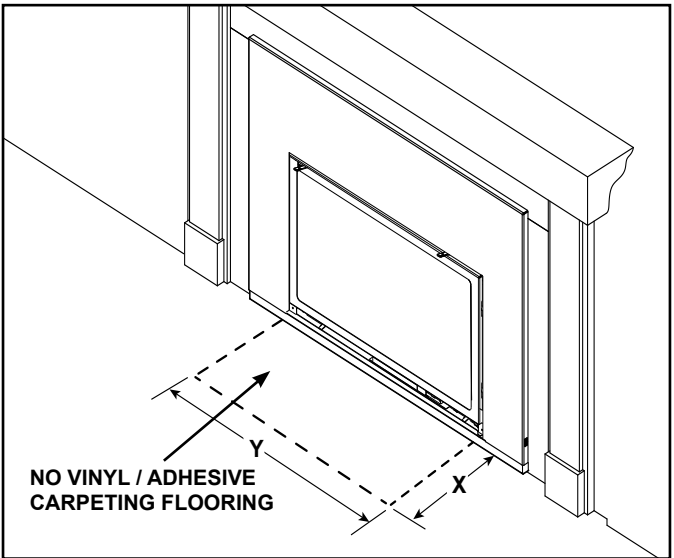

Figure 8.5 Combustible Material Exception
- Combustible flooring may be located in front of the appliance. Exception - no vinyl / adhesive or carpeting flooring. See Figure 8.5.